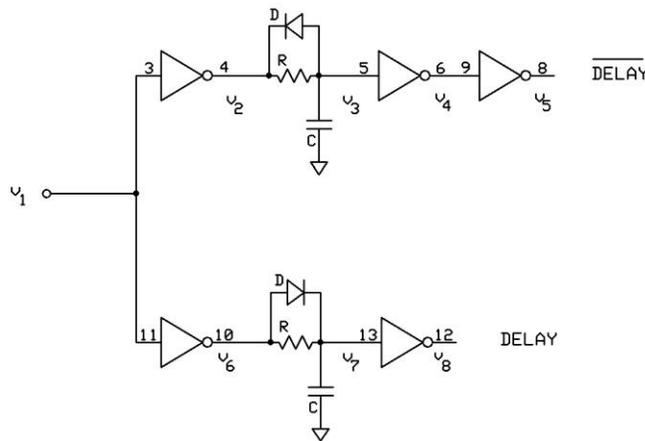

Figure 3: Delay circuit
1. Figure 3 shows a typical delay circuit. The signals DELAY and #DELAY (#DELAY signifies the inverted version of DELAY) can be used to control a pair of switches so that we "break" or open an active switch before "making" or turning on another switch. Please answer the following questions about this circuit:
- a. The circuit in Figure 3 creates a delay using two RC circuits. One of those RC circuits charges its capacitor faster. Which one? One of the RC circuits discharges its capacitor faster. Which one? Explain your reasoning in both cases.
2. Construct the circuit shown in Figure 3 using your calculated time constants and a 74LS04. **Choose $C = 1\text{nF}$ and then choose a value of R that gives approximately the right delay.** The actual delay is the time between a high-to-low transition at DELAY and a low-to-high transition and #DELAY and vice versa. The easiest way to measure the delay is to simultaneously measure v_3 and v_4 and to then simultaneously measure v_7 and v_8 . **Ultimately, your delay should lie somewhere between approximately 700ns and 1 microsecond. The actual value does not matter. If your delays are initially outside of this range, adjustment should be easy if you use your intuition. For instance, if one of your delays is slightly less than 750ns, you should try to increase R and keep C constant.**